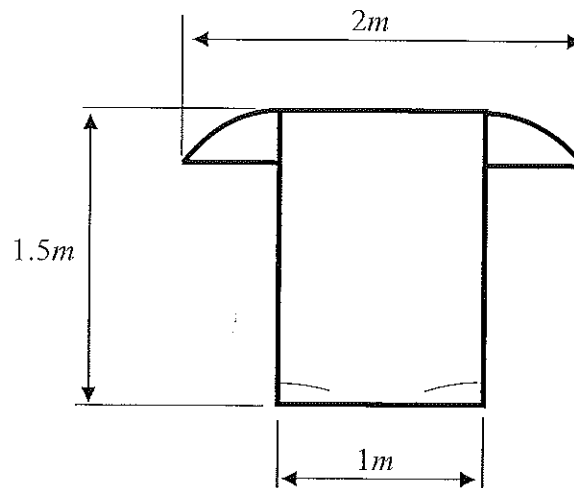

Fig.Q1-8
1. The Fig.Q1-8 shows the important dimensions of the bucket with blades.